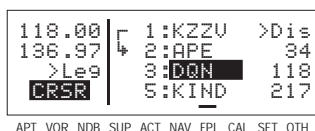

Figure 4-41
2. Turn on the cursor (CRSR) and use the left outer knob to position the cursor over the desired waypoint (figure 4-41).